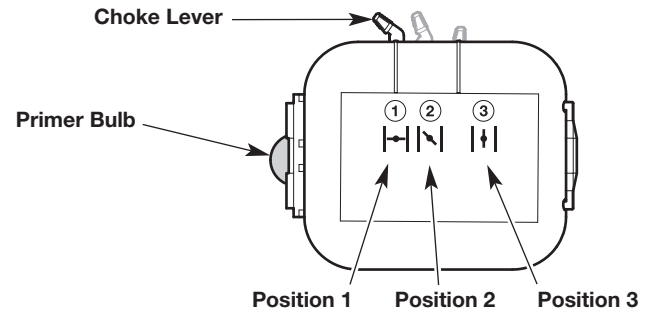

Fig. 11
1. Slowly press and release the primer bulb **10 times** (Fig. 11). If fuel cannot be seen in the primer bulb, press and release the primer bulb until fuel is visible.
2. Move the choke lever to **Position 1** (Fig. 11).
6. Move the choke lever to **Position 2** (Fig. 11).
9. Move the choke lever to **Position 3** (Fig. 11). Allow the engine to warm up for an additional 60 seconds. The unit may be used during this time.
IF... the engine hesitates, return the choke lever to **Position 2** (Fig. 11) and continue the warm-up.